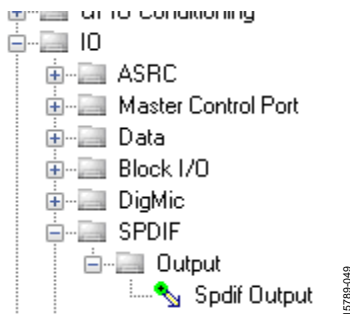

Figure 47. S/PDIF Output Block Selection
- a. From the **IO > SPDIF > Output** folder, click **Spdif Output** (see Figure 47) and drag it into the project space to the right of the toolbox.